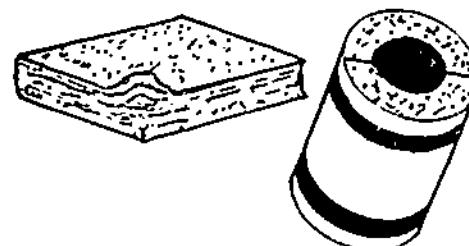

Figure 36-2. Sponge-Felt Paper Insulation
3. Sponge-felt paper insulation is made of asbestos paper with a maximum amount of sponge mixed with it. It has from 37 to 40 layers to each 25 mm and is round, rigid, and closely packed. It comes in 900 mm lengths and is 25 to 75 mm thick. For valves and fittings, it is supplied in blocks of straight and perforated shapes, as shown in Figure 36-2, but this insulation is not commonly used today.